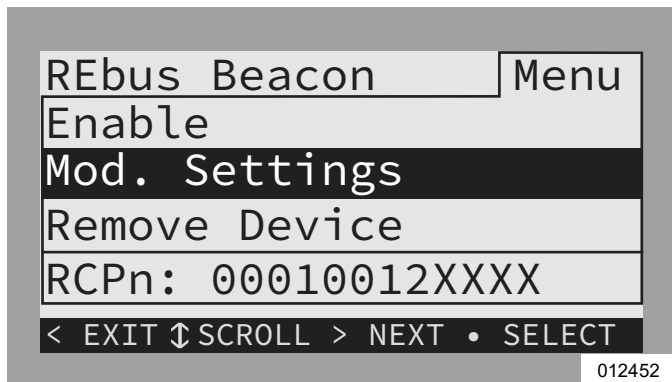

Figure 6-15. Configuring TOU Schedule (2 of 4)
2. See **Figure 6-15**. Use the up and down arrows to highlight Mod. Settings and press the center button to enter the settings menu.